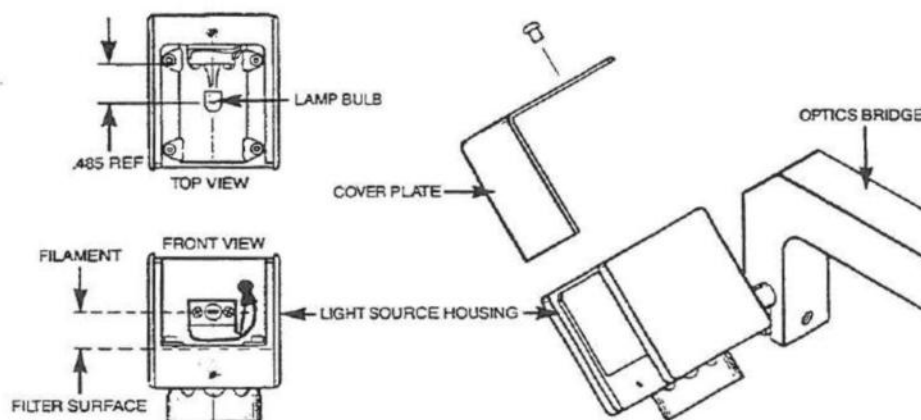

Figure 10 - 7 Illuminator Lamp Replacement
5. Place a new bulb in the socket and check the reference dimension. For optimum illumination, set the bulb filament parallel to the filter (see Figure 10 - 7). If the new lamp does not light, check the lamp wire connection at the rear of the optics bridge.